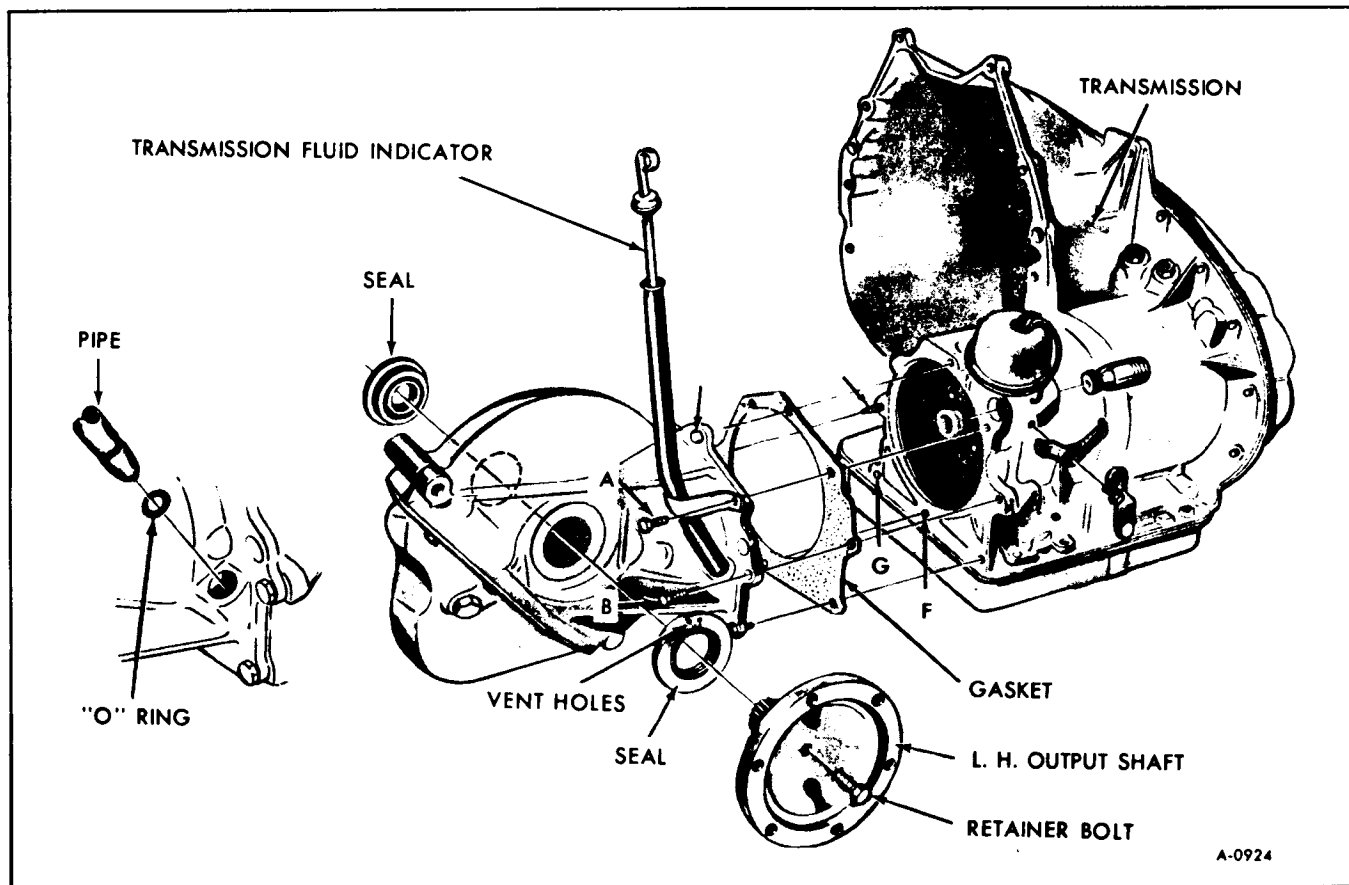

Figure 12—Final Drive Attachment
2. Using a 9/16" socket remove L.H. output shaft retaining bolt and remove L.H. output shaft. (figure 12)
3. Install L.H. output shaft retaining bolt and torque to 40 ft. lbs. (figure 12)
The automatic transmission filler tube is located on the final drive. The filler tube can be removed by removing bolt "A", Figure 12 and then pulling the filler tube out of the housing. To install, position a new "O" ring seal on the filler tube. Coat seal with Special Seal Lubricant No. 1050169 or equivalent and install filler tube into housing. Install bolt "A" and torque to 25 ft. lbs.
3. Remove bolts "A", "B", and "C". (Figure 12)
10. Remove bolts "E", "F" and "G" and nut "H" (figure 12).
14. Using a 9/16" socket remove the left output shaft retainer bolt, then pull output shaft from final drive. (figure 12)
2. Install the left output shaft into the final drive. Retain with bolt. Torque bolt to 40 ft. lbs. (figure 12)
5. Raise transmission lift. Align the bolt stud "H" on the transmission with the mating hole in the final drive. Move final drive until it mates with the transmission. (Figure 12)
6. Install bolts "E", "F" and "G" and nut "H" (figure 12). Install bolts "A", "B" and "C". (figure 12) Torque all final drive to transmission bolts to 25 ft. lbs. Torque nut to an approximate 25 ft. lbs.